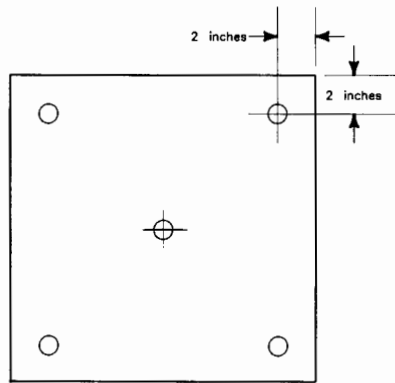

Figure 6-8. Color Coordinate Check Locations
11. Check that the color coordinates are within specification at the five locations shown in Figure 6-8.